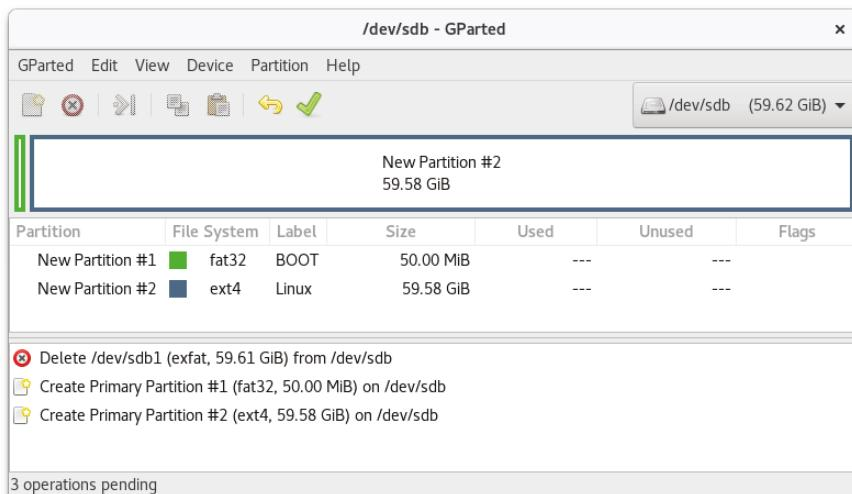

Figure 7-15: The GParted tool being used to create a fat32 and ext4 partition
- You can create a suitable SD card file system and then write the final image to an SD card. The SD card appears on the Linux VM as `sdb`. GParted, as illustrated in Figure 7-15, can be used to create a `fat32` and `ext4` partition to contain the files from step 4.